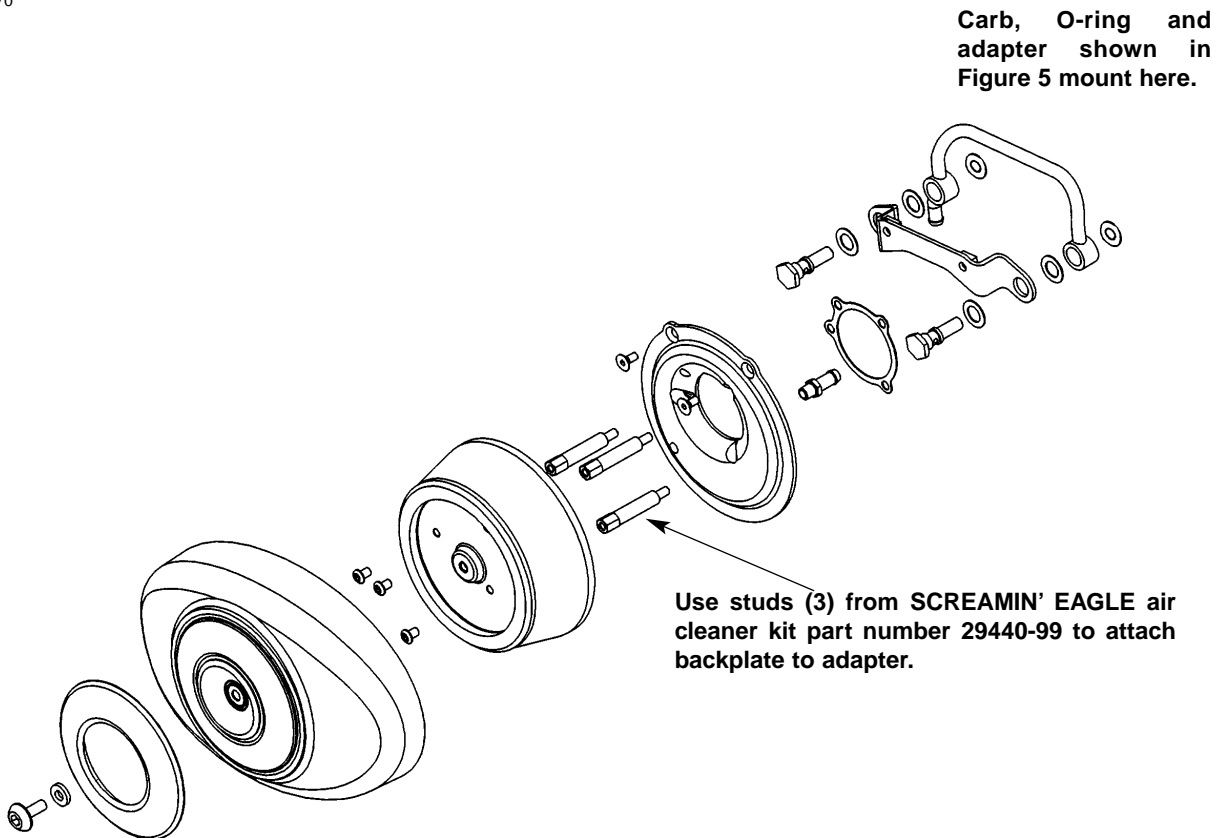

Figure 6. Air Cleaner Assembly-Twin Cam 88
1. See Figure 6 on page 4. Insert the large diameter o-ring into the adapter. Attach the adapter to the SCREAMIN' EAGLE backplate with the three studs from air cleaner kit. The studs must be inserted through mounting holes in backplate and gasket on back side of backplate and finally threaded into adapter.